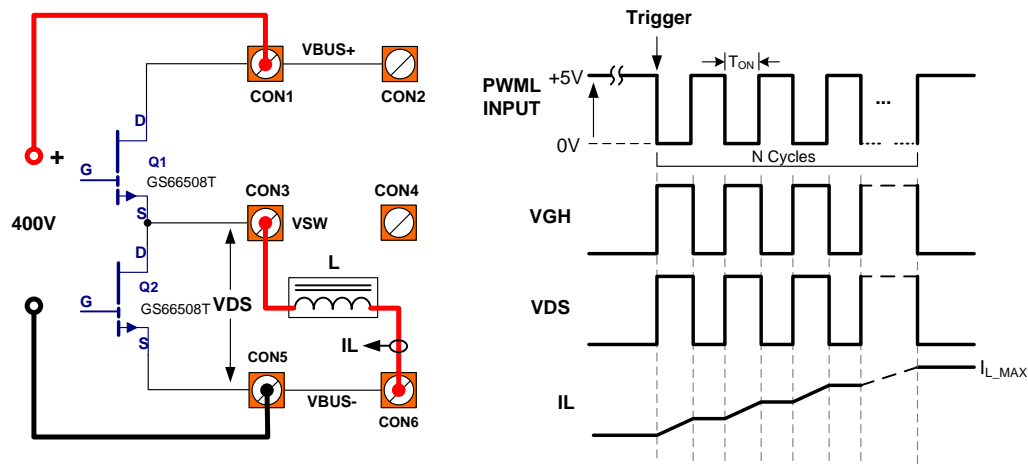

Figure 10 - Pulse test mode and waveforms
Figure 10 shows an example of the PWM input signal and pulse test switching waveforms for the pulse test mode. Since a bootstrap circuit is used to create the high side gate voltage, the low side device Q2 must be turned on first before the first testing pulse to ensure that the high side gate driver is powered up. This can be implemented by setting the signal generator output to “Inverse” mode on the signal so the PWML is always high before and after the testing pulses. It is recommended to use a single trigger burst mode and manually trigger the signal generator for each test to avoid any heating of the devices.
3. Connect 50Ω impedance output from signal generator to **J5 (PWML)**. Set up the signal generator in pulse and single trigger burst mode to generate signals as shown in **Figure 10**. Set Ncycle = 5 and use the Eq.1 to calculate T_{ON} to ensure the maximum switching current is $\leq 30A$ at 400VDC.